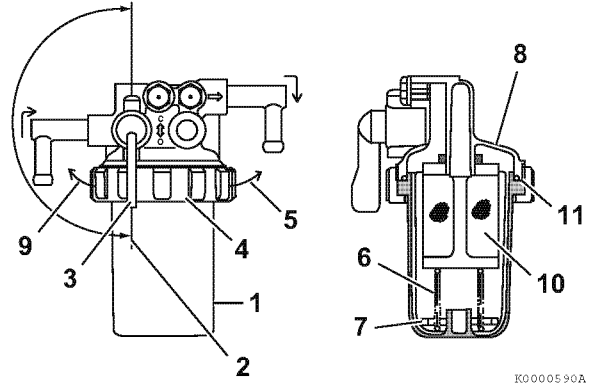

Figure 17
1. Position an approved container under the cup (1, **Figure 17**) of the fuel filter/water separator to collect the contaminants.
2. Close (2, **Figure 17**) the fuel cock (3, **Figure 17**).
3. Turn the retaining ring (4, **Figure 17**) to the left (9, **Figure 17**).
4. Carefully remove the cup (1, **Figure 17**). Remove the retaining spring (6, **Figure 17**) and float (7, **Figure 17**) from the cup. Pour the fuel into an approved container and dispose of waste properly. Hold the bottom of the cup with a shop towel to prevent the fuel from dripping. Wipe up any spills immediately.
6. Remove the mesh filter (10, **Figure 17**) by pulling it down.
8. Inspect condition of the O-ring (11, **Figure 17**). Replace if necessary.
9. Put the float (7, **Figure 17**) and retaining spring (6, **Figure 17**) inside the cup.
10. Install the cup to the mounting flange (8, **Figure 17**) and turn the retaining ring (4, **Figure 17**) to the right (5, **Figure 17**). Hand-tighten only.
11. Open the fuel cock (3, **Figure 17**).